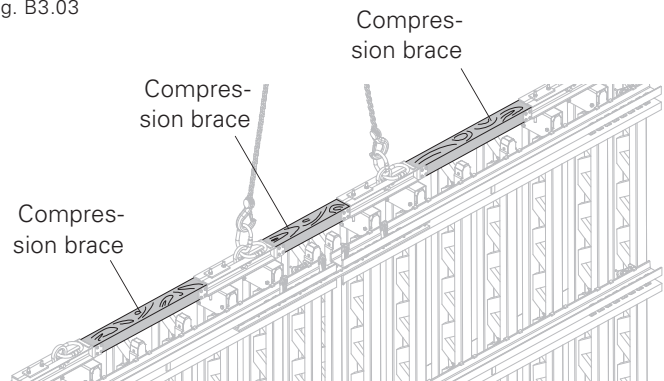

Fig. B3.03a
- Compression braces must be installed between the crane hook. (Fig. B3.03a)